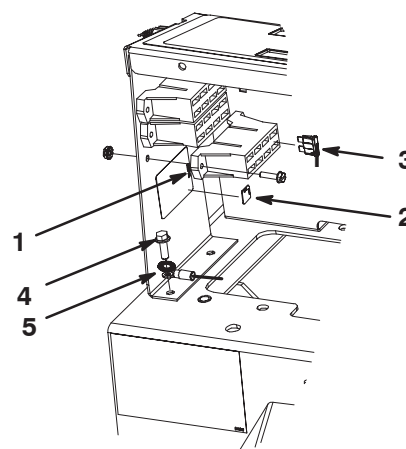

Figure 3
9. Mount the new fuse block below the existing fuse block with a #10 x 3/4 in. screw and locknut (Fig. 3).
- Secure the ground wire ring terminal, from the harness, to the grounding bolt (Fig. 3 & 5). Use the star washer included when making the connection
12. Affix the fuse decal to the corresponding location on the fuse block decal (Fig. 3). Make sure the decal surface is clean and dry before affixing the new decal.